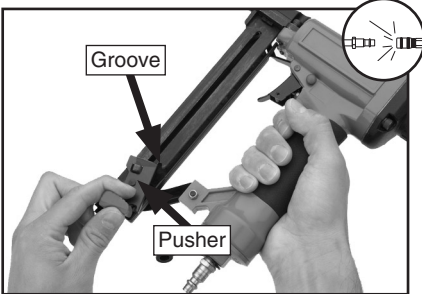

Figure 3. Latching pusher in groove.
2. Grip the stapler firmly, and pull the magazine pusher back until it latches in the groove as shown in **Figure 3**.